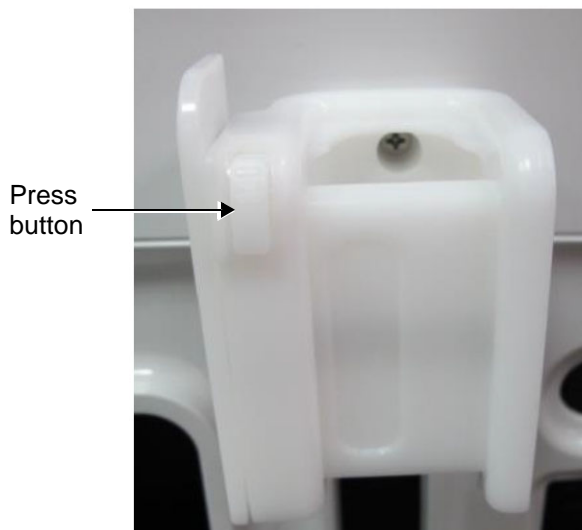

Figure 8-12 Removing the RS Cable Assembly - Front Part
- 5.) On the RS cable assembly, press the release button and pull the slider to the side to provide access to the two securing screws. Then, unfasten the two screws and remove the RS cable assembly (front part) - see Figure 8-12.